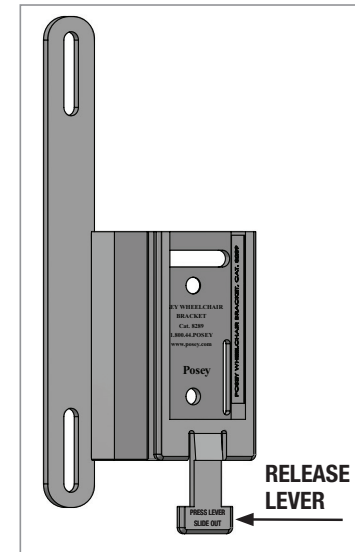

Fig. 1
7. To remove alarm, gently push release lever IN while sliding alarm up and out (Fig. 1).